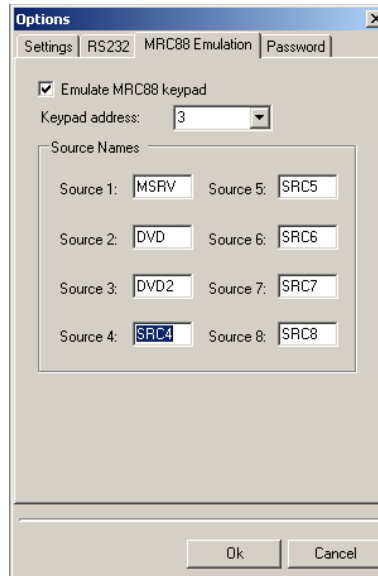

Figure 53 – Options Window/MRC88 Emulation
3. After all of the **GTL's** are laid out, as is done in a standard SPLCD project, click the **Project Options Icon** in the **Tool Bar**. The **Options Window** will appear. (**Figure 53**)